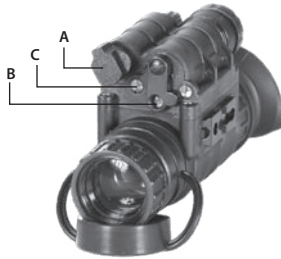

FIGURE 3-14. IR ILLUMINATOR OPERATIONS
1. To activate the IR illuminator, turn the monocular on. Pull the IR illuminator out and flip the turn-pull function switch (Figure 3-14, A) CW from ON to the IR position. A red light will appear in the eyepiece to indicate that the IR illuminator is operating.
2. Focus the IR light, if necessary, by placing the pivotal focusing lens (B) onto the IR illuminator output window (C).